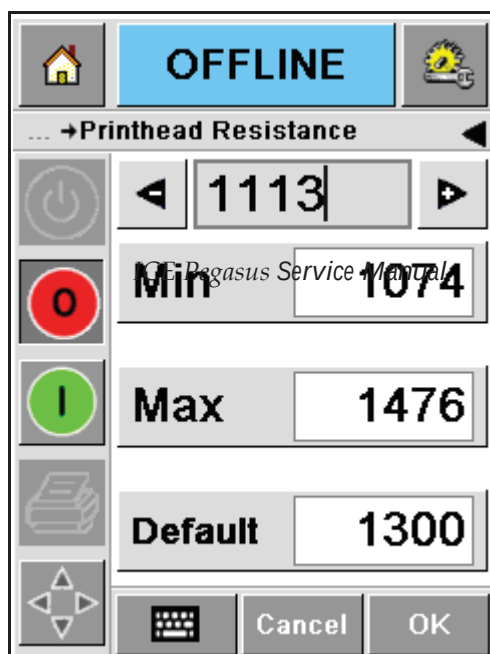

Figure 5-24: Printhead Resistance Setting
- 5 Select the Printhead Resistance parameter and enter the resistance value that was displayed on the printhead label (Figure 5-24).